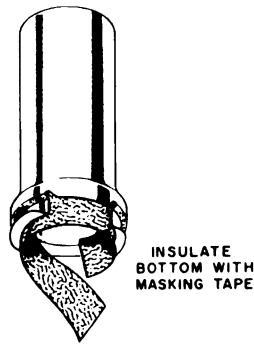

Figure 19. Special Tube Shield for IF Amplifier Alignment and IF Response Curve Check.
- Connect generator high side to 6CG8 mixer-osc. insulated tube shield, see figure 19. Connect low side to chassis near tube shield.